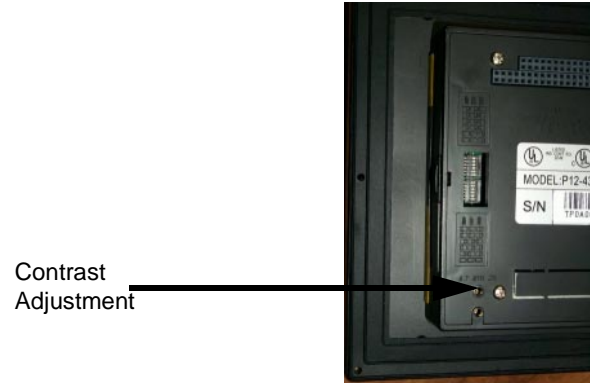

Figure 4-7 Contrast Adjustment
1. Find the contrast adjustment marked 5.7 STN CR on the back of the PowerStation. See *Figure 4-7*.